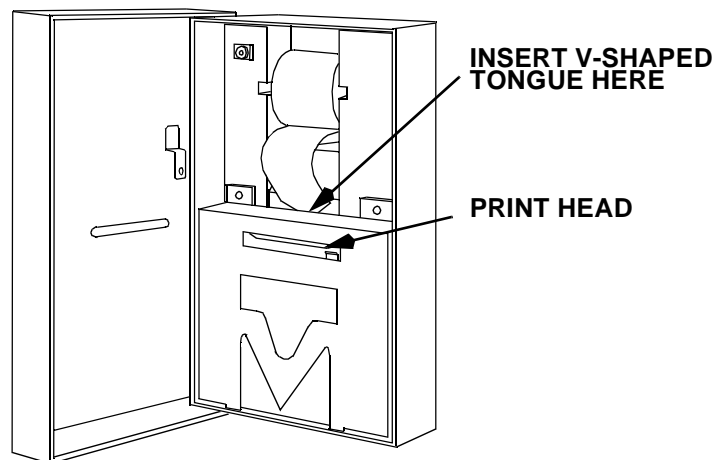

Figure 17. Paper Threaded Through Print Head Slot
4. Thread the paper through the print head slot [Figure 17]. Be sure the print head is off to one side to avoid damage.